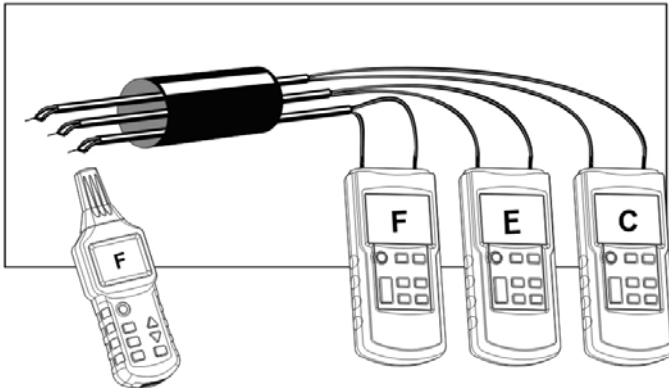

Fig.22
- Connect the transmitter as shown in Fig. 22.